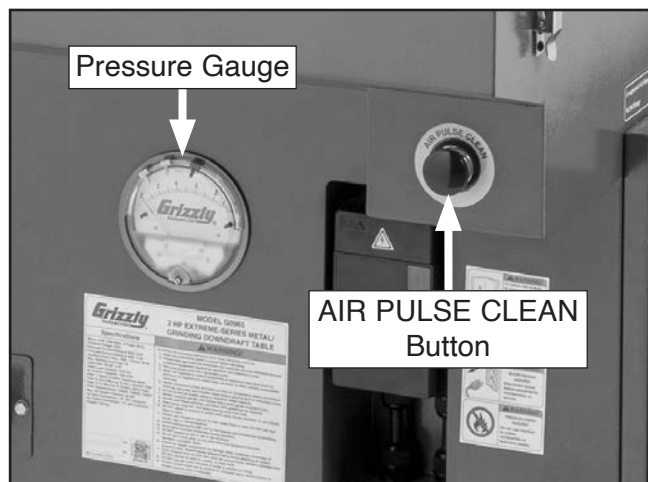

Figure 38. Location of pressure gauge and AIR PULSE CLEAN button.
1. Turn downdraft table **ON** and observe pressure gauge to note current operating pressure (see **Figure 38**).
3. Press and release AIR PULSE CLEAN button to pulse air at filters (see **Figure 38**).